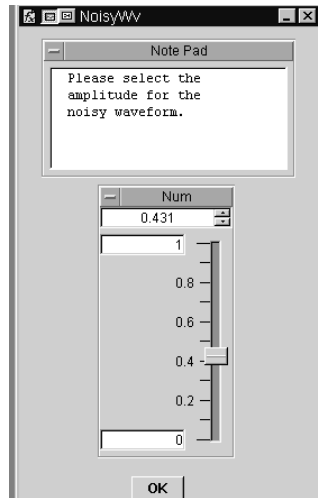

Figure 15.12. The NoisyWv Waveform UserObject pop-up panel
4. Select Menu Bar => Edit => Add To Panel; see Figure 15.12 to arrange these objects; size the noisyWv window.